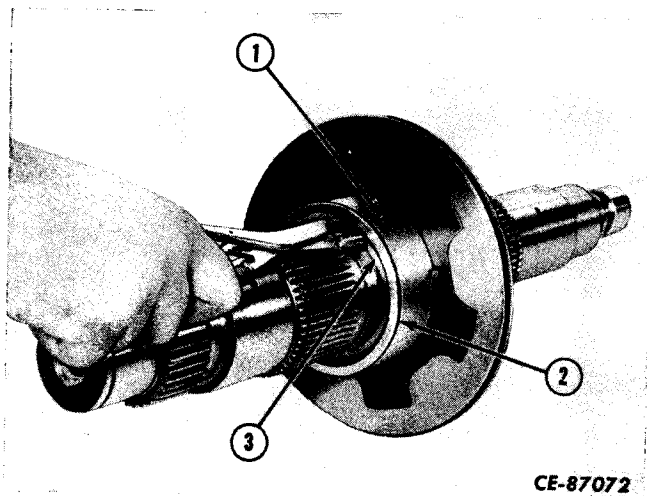

Figure 4-36
Remove the accelerating pistons retaining snap rings (3, Fig. 4-36). Remove the accelerating pistons (1). Remove hook type seal rings (2) from pistons.
Install snap rings (3, Fig. 4-36) that retain accelerating pistons (1).